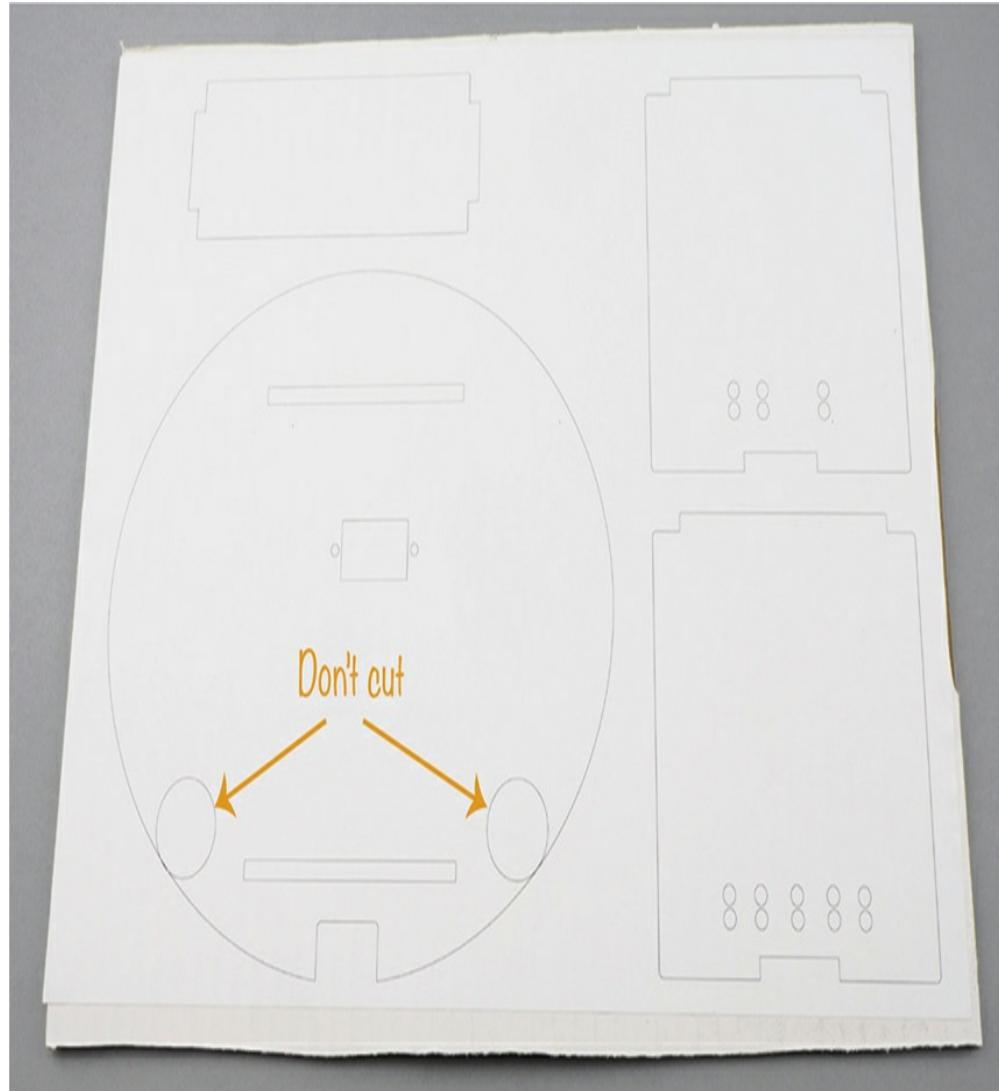
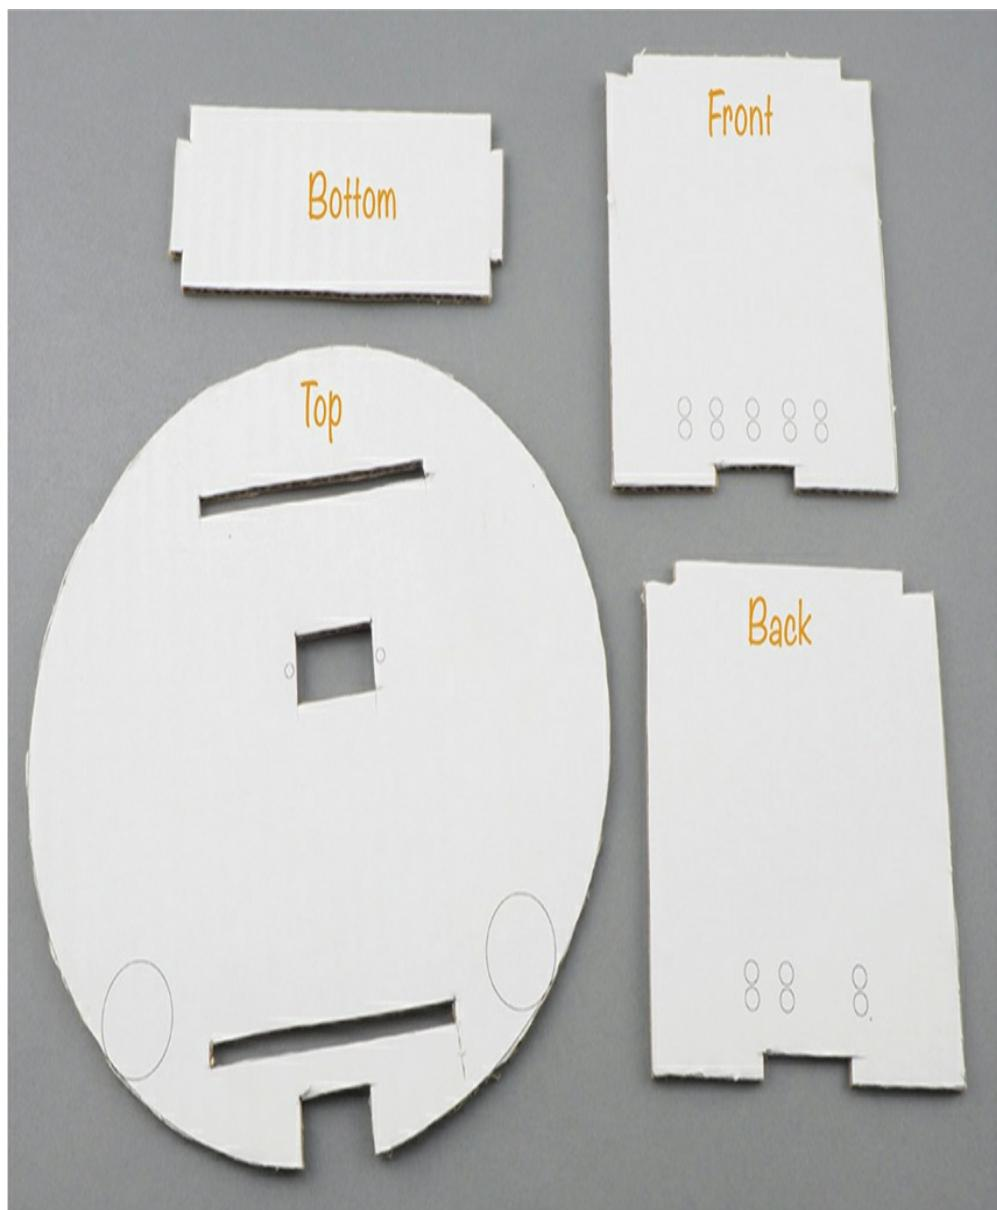

Figure 6-10: The paper template glued to a piece of cardboard
Figure 6-11: The cardboard pieces for the chassis
7. Now let's start assembling the cardboard chassis that will hold everything together. To make this easier, I've provided a template that can be downloaded with the code for the book. The template is in the folder *other downloads* and is called *Animatronic_Head_Template*. It is available in PDF, PNG, and SVG formats. Download it, print it out, and fix it onto a slightly larger piece of cardboard, as shown in Figure 6-10.
8. Except for the places noted in Figure 6-10, cut along the lines. This will give you the pieces of cardboard shown in Figure 6-11. For many of the cuts, scissors will be fine, but you'll really need a craft knife to make the cutouts for the slots and servomotor.